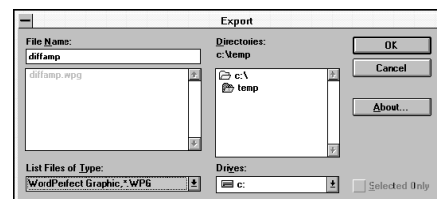

Fig. 28
73. We now must export the drawing into a format compatible with the word processor we're using. In this example we will export to WordPerfect. Click the mouse on the file menu and then highlight the Export sub-menu. The Export screen will appear. See **Figure 28**. Click the mouse once on the down arrow on the box labeled "List Files of Type:" The available type of files types to export the drawing will pop-out. Scroll down through the list of file types until "WordPerfect Graphic, \*.WPG" is visible. Highlight that file type with the mouse. Choose the drive and directory that you desire to save the drawing to. Click the mouse on OK.